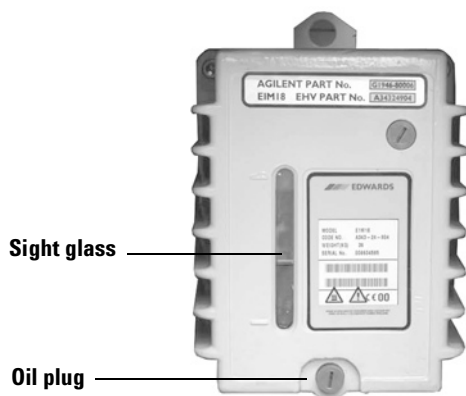

Figure 12 View of E1M18 pump through access door.
- 8 Remove the oil drain plug from your rough pump. Refer to your pump documentation. See Figure 12.